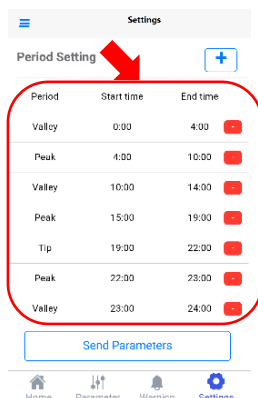

Figure 4-4
STEP 6: Period setting (Figure 4-4).